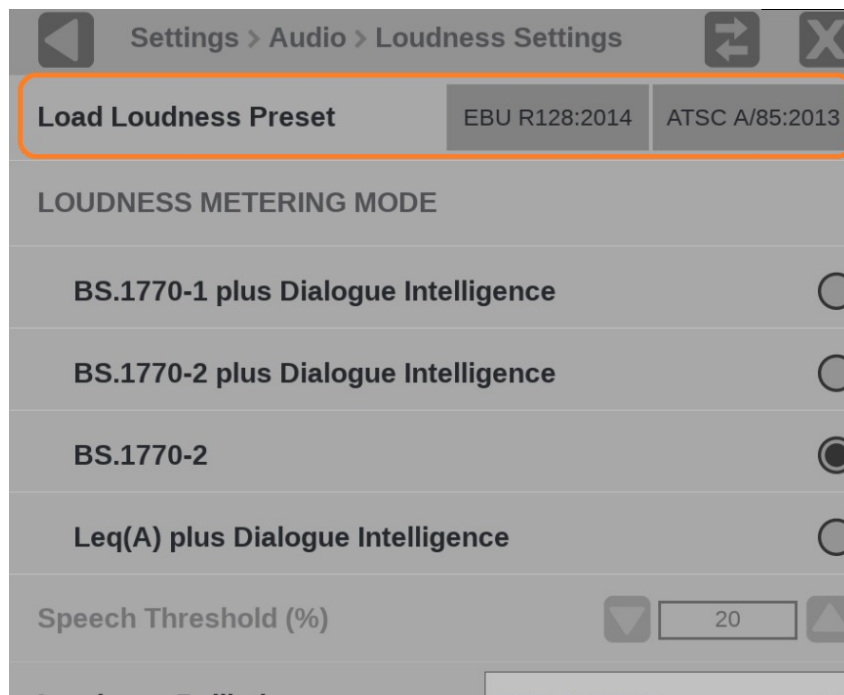

Figure 52: Loudness Settings with the Loudness preset options marked
4. Load a standard preset: Select **EBU R128:2014** or **ATSC A/85:2014** for a pre-defined set of loudness metering configuration. (See Figure 52.)